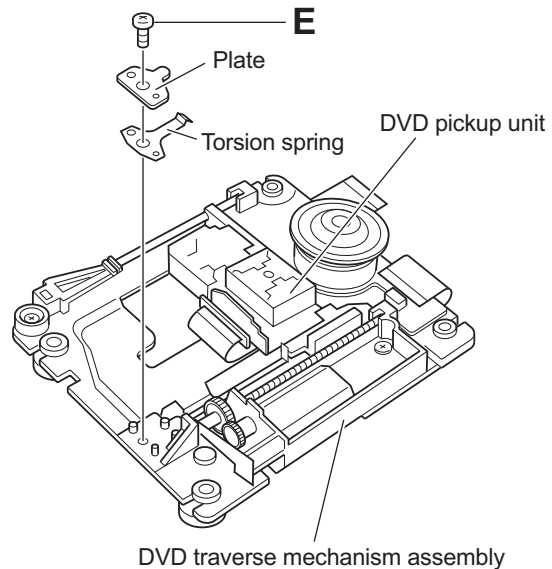

Fig.8
2.3.8 Removing the DVD pickup unit (See Figs.8 to 10.)
- (1) From the top side of the DVD traverse mechanism assembly, remove the screw E attaching the plate and torsion spring. (See Fig.8.)
2.3.9 Attaching the DVD pickup unit (See Figs.8,10 to 12)
- (5) Attach the torsion spring. (See Fig.8.)
- (6) Attach the plate. (See Fig.8.)